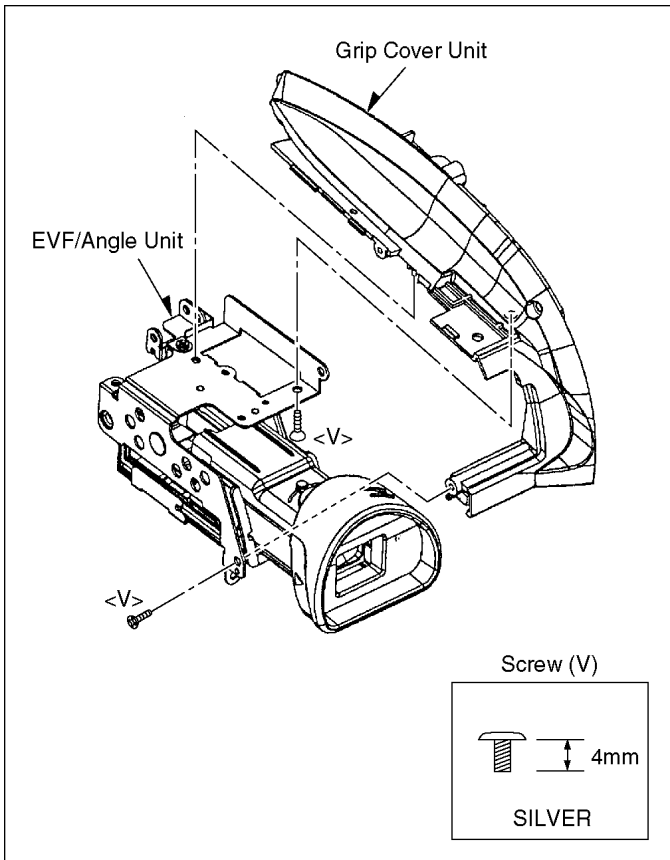

Fig. D17
| 13 | EVF P.C.B. | Fig. D17 | 2-Screws (V) Grip Cover Unit EVF/Angle Unit |